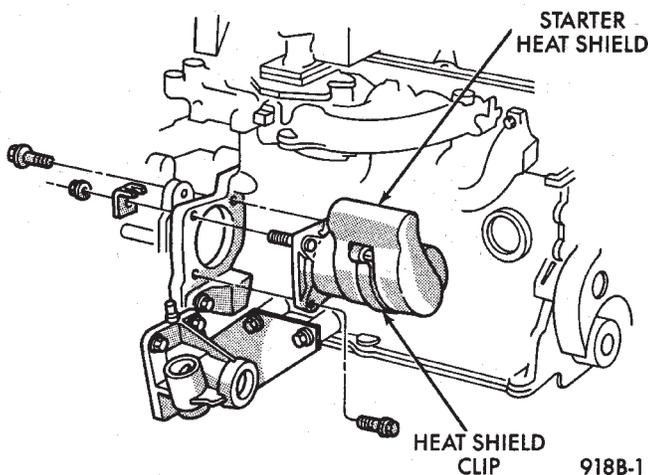

Fig. 2 Starter Heat Shield—4 Cylinder Engines
(2) Raise vehicle.
(3) Remove heat shield clip from the starter and heat shield is clipped to starter (Fig. 2). For easier servicing, do not remove the wiring from starter at this time.